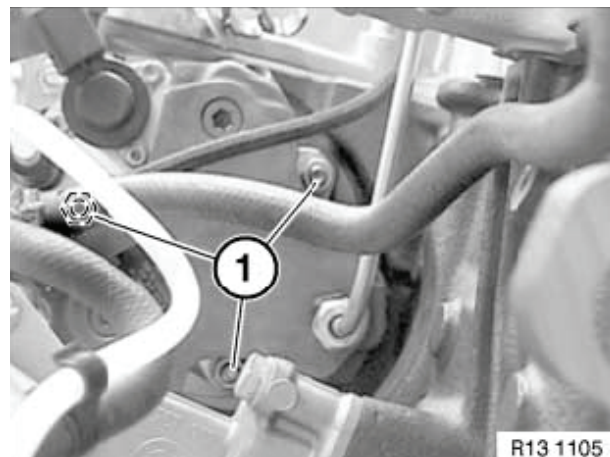

Figure 6-27
14. Remove three nuts (Figure 6-27, (1)).